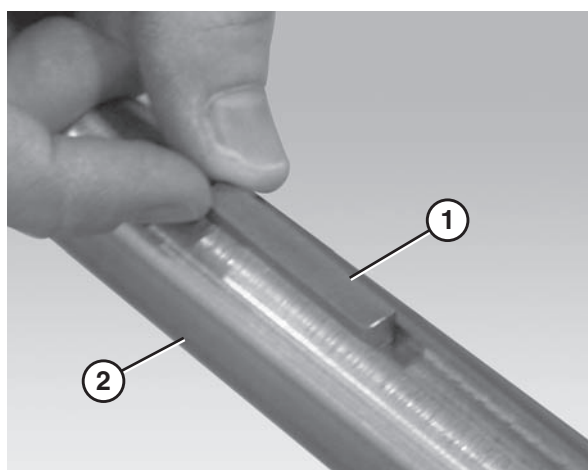

Figure 61
9. Remove the drive spindle key (Figure 61, item 1) from the drive spindle keyway (Figure 61, item 2).